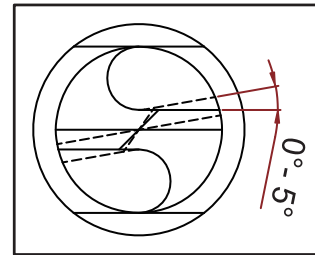

Fig. 8-4
- ✘ The cutting edge can be angled towards the slot of the clamping nut but no more than 5° (Fig. 8-4), but the cutting edge cannot be angled away from the slot of the clamping nut.